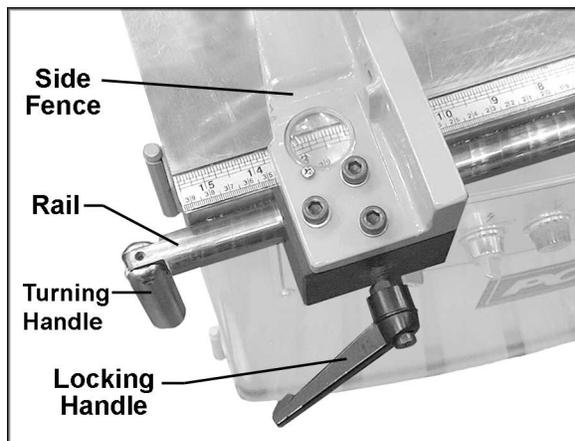

Figure 35
The two side fences (Figure 35) can be moved the length of the rail.
- Loosen locking handle (Figure 35), and slide the side fence into position.
To remove a side fence from the table, lift up on the turning handle (Figure 35) until it is parallel with the rail. Slide the fence all the way to the end of the turning handle. The side fence will then hang down at the side of the machine, out of the way but convenient for quick reinstallation on the rail.